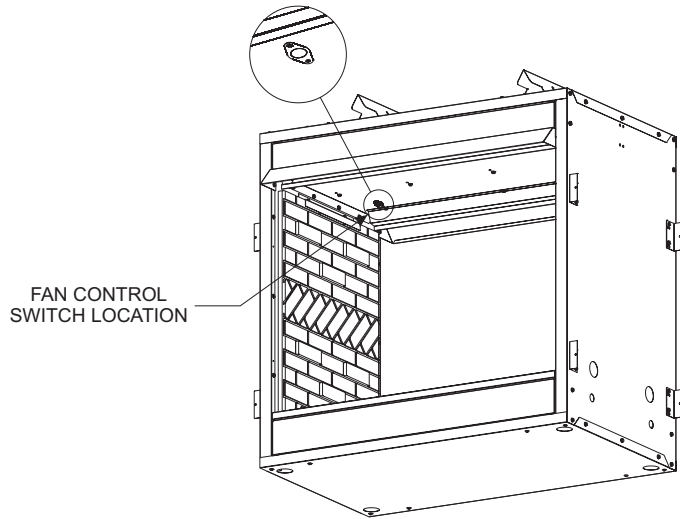

Figure 10
3. Next, find the fan control switch and wire assembly. Feed the wires through the hole at the top of the firebox. Feed the wires over the firebox top and down between the firebox side and outer wrap then, secure the fan control switch with (2) #6 screws provided. **See Figure 10.**